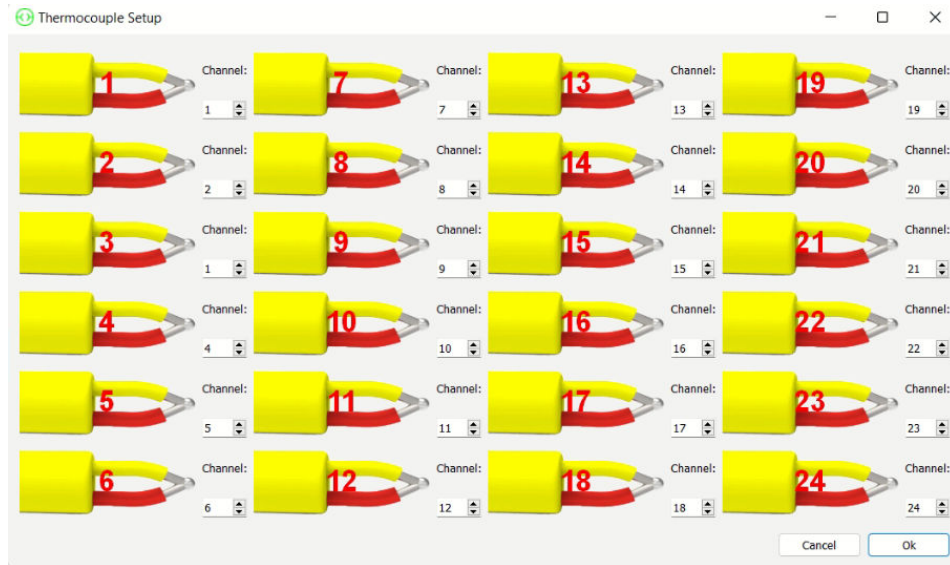

Figure 102: Multi-Thermocouple Control - Thermocouple Setup window
5. In the modified 'System Settings' window that has appeared, next to 'Setup Thermocouple Allocations' click the 'TC Setup' button to open the 'Thermocouple Setup' window shown in Figure 102 on the next page.